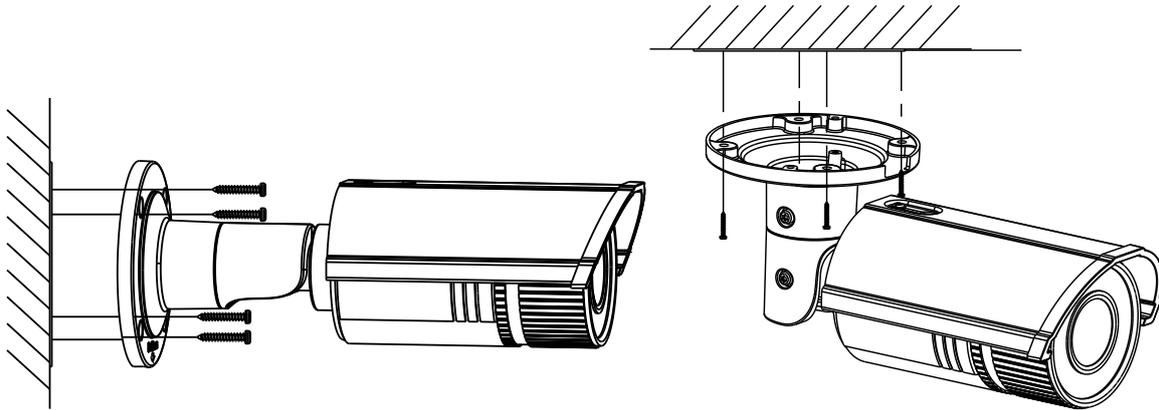

Figure 7-9 Secure the Camera
- 5). Secure the camera to the wall (or ceiling) with expansion screws. Refer to Figure 7-9.